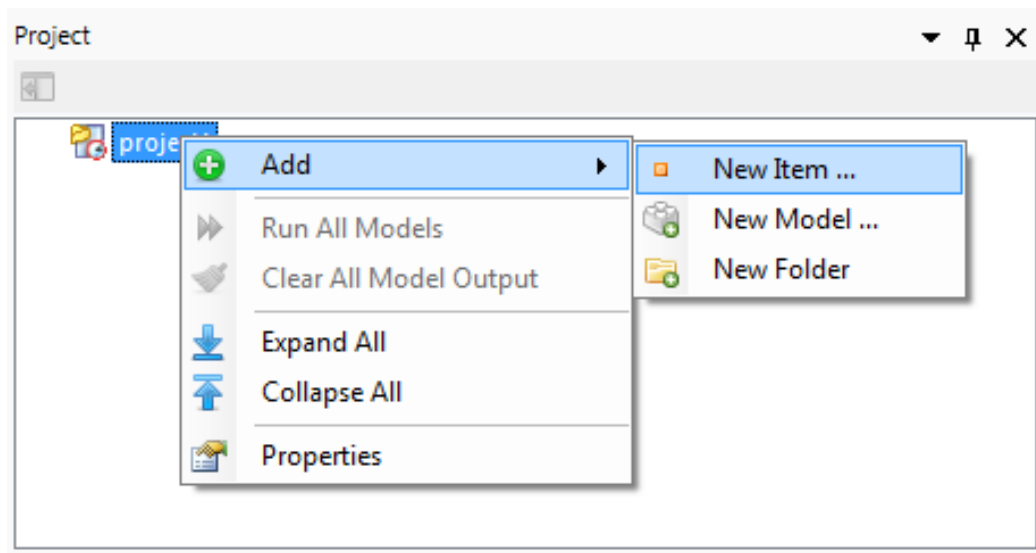

Figure 3.2: Typical context menu that appears when you right-click on a project. The Add option enables you to add new objects to the project.
- 2 In the **Project Explorer** window, right-click on the desired project, then click Add, followed by **New Item...**, **New Model...**, or (see Figure 3.2).